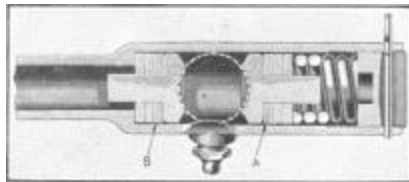

Figure 49
Assuming that the front wheels point to the right instead of to the straight ahead position when steering gear is in center position, it will be necessary to remove shims from the rear pack (A), Figure 49, and add to the front pack (B). In the event that the front wheels point to the left, reverse the operation, that is, remove shims from the front pack (B) and add to the rear pack (A). Reconnect the drag link to the pitman arm and lubricate thoroughly.